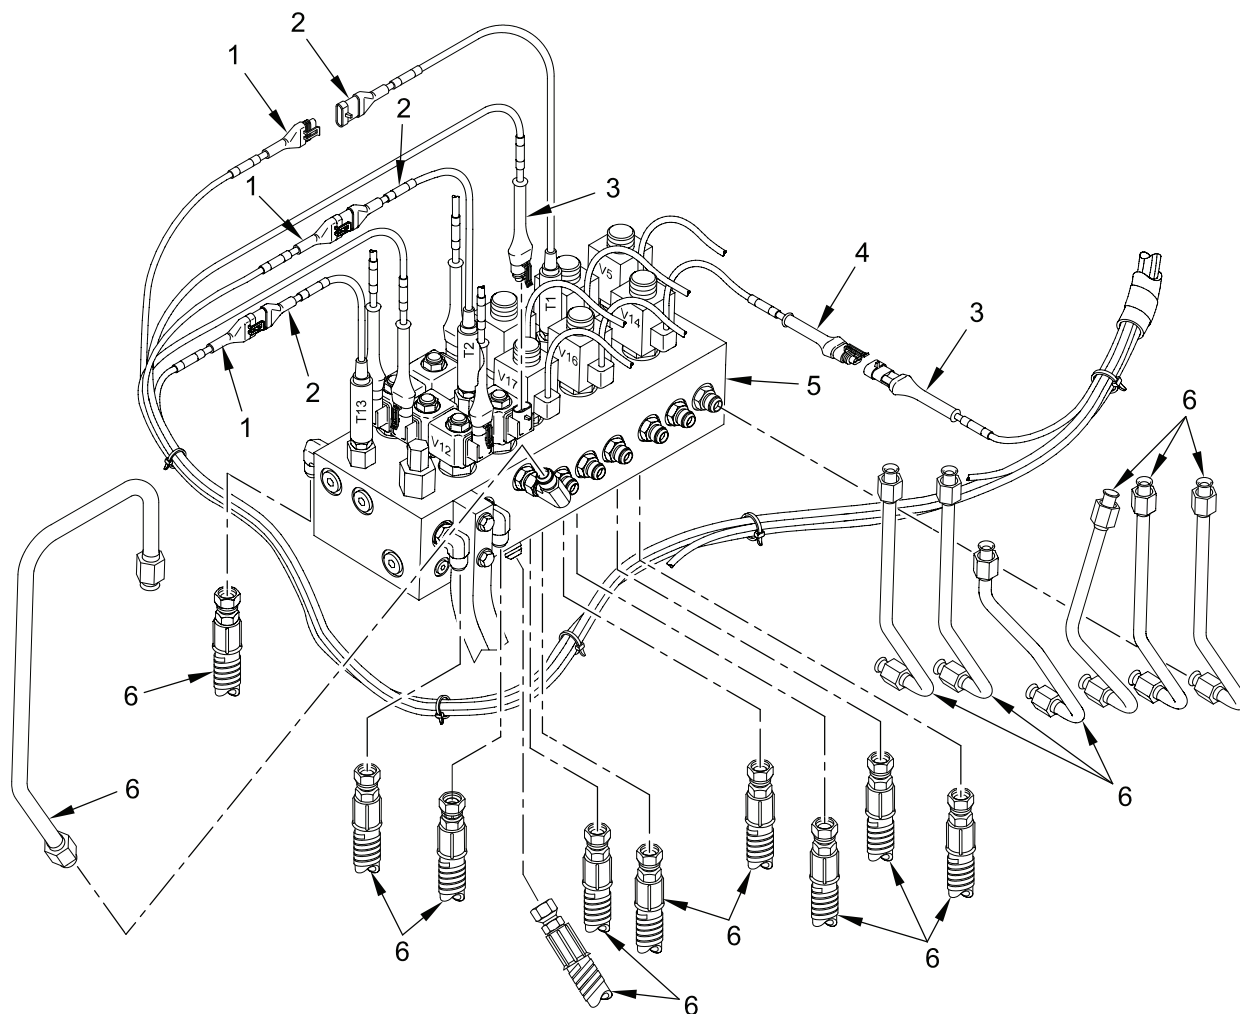

Figure 4. Installing HDC Primary Manifold Assembly and Mounting Bracket
5. At primary manifold (Figure 4, item 5) connect wiring harness W2 connectors P2, P31, and P32 (Figure 4, item 1) to transducers T2, T1, and T13 (Figure 4, item 2).
6. At primary manifold (Figure 4, item 5) connect wiring harness W2 connectors P1, P5, P11, P12, P13, P14, P15, P16, P17, P19, and P20 (Figure 4, item 3) to valves V1, V5, V11, V12, V13, V14, V15, V16, V17, V19, and V20 (Figure 4, item 4).
7. Remove caps from adapters and plugs from 17 hydraulic hoses and tubes and connect 17 hydraulic hoses and tubes (Figure 4, item 6) to primary manifold (Figure 4, item 5).